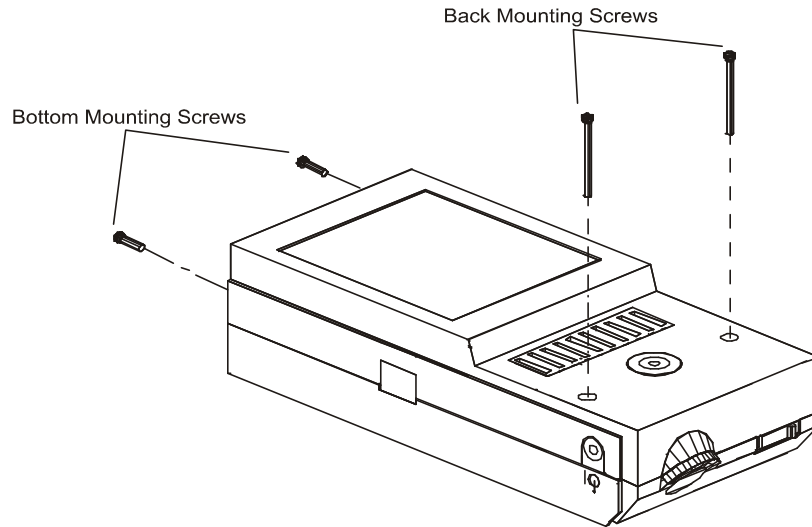

Figure 7-2: Removing Mounting Screws
3. Remove the two bottom and two back mounting screws from the rear panel of the monitor as shown in Figure 7-2.